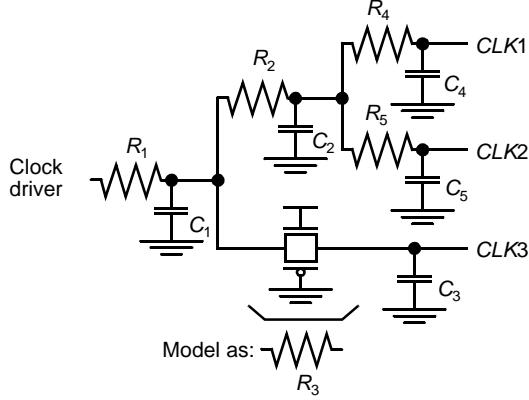

Figure 0.2 *RC clock-distribution network.*
2. [C, SPICE, 4.x] You are designing a clock distribution network in which it is critical to minimize skew between local clocks (CLK_1 , CLK_2 , and CLK_3). You have extracted the RC network of Figure 0.2, which models the routing parasitics of your clock line. Initially, you notice that the path to CLK_3 is shorter than to CLK_1 or CLK_2 . In order to compensate for this imbalance, you insert a transmission gate in the path of CLK_3 to eliminate the skew.